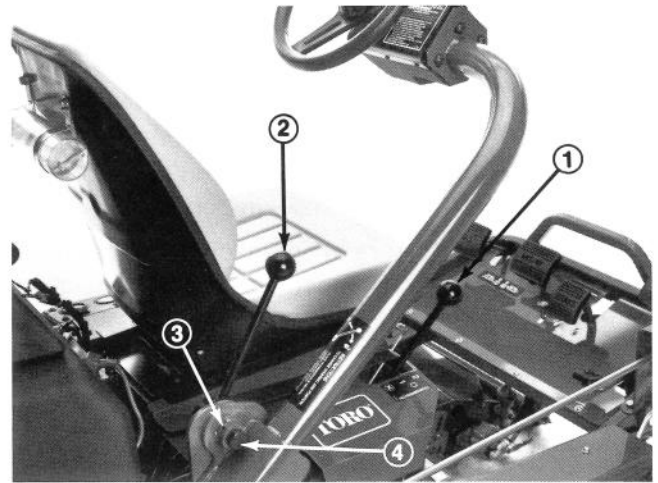

Figure 17
**SHIFT SELECTOR** (Fig. 17) – Located on the top of the right hand panel. Provides two (2) traction selections, plus a “NEUTRAL” position. It is permissible to shift from one selection to another while the Greensmaster 3100 is in motion. No damage will result.
**STEERING ARM LOCKING LEVER** (Fig.17) – Rotate lever rearward to loosen adjustment, raise or lower steering arm for operator comfort, then, forward to tighten adjustment.